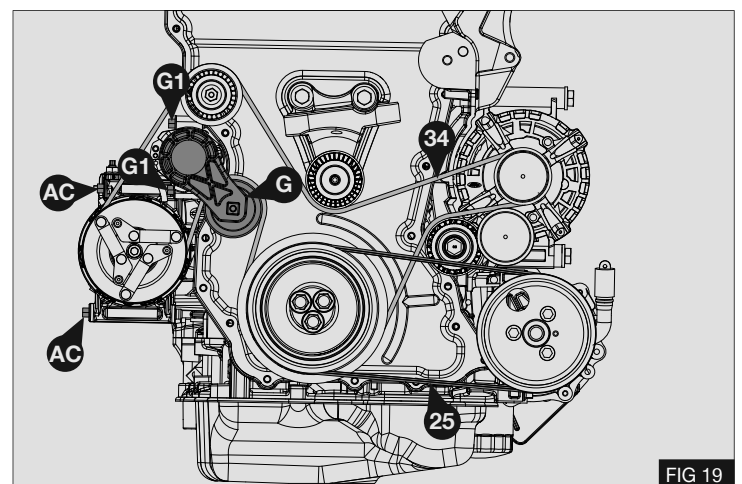

FIG 19
5. Install drive belt (34) - Fig 19
6. Tighten tensioner mounting bolts (G1) and AC compressor bolts (AC).
7. Torque bolts (G1) and (AC) to 25Nm / 18.4Lbft
8. Release automatic belt tensioner (G).
9. Fit PAS belt (25) - Fig 19